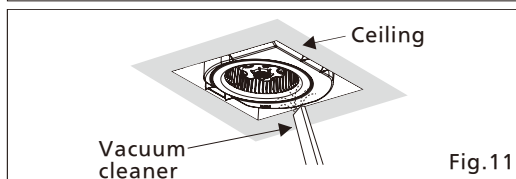

Fig.11
3. Remove dust and dirt from fan body using a vacuum cleaner. (Fig.11)